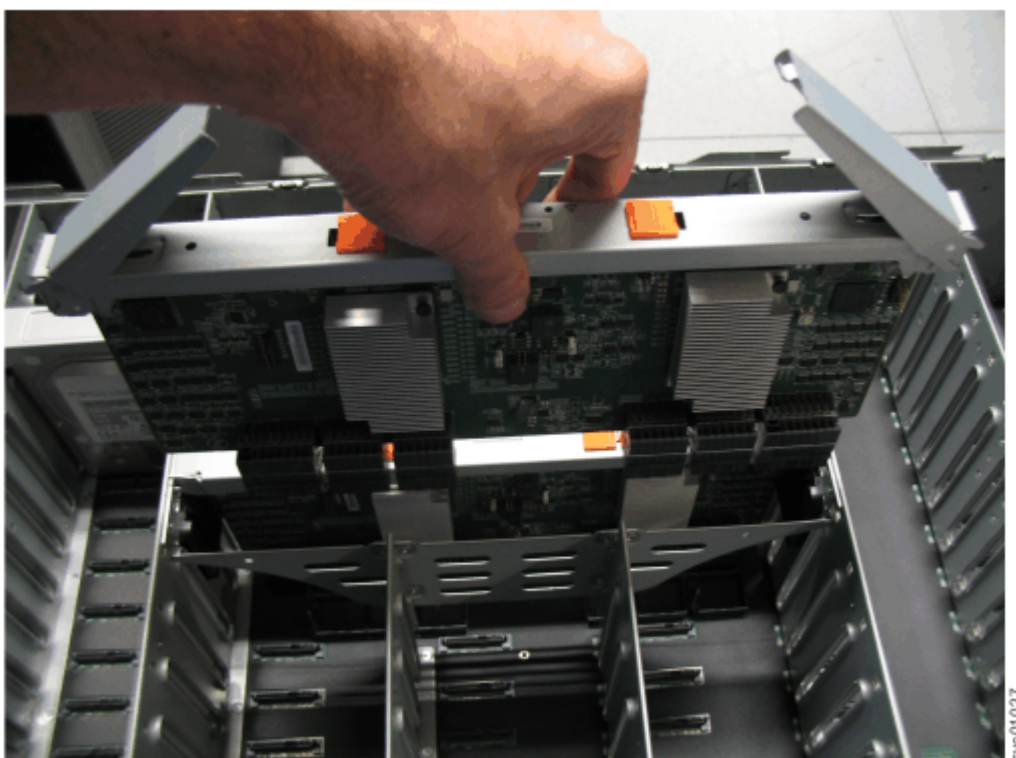

Figure 110. Remove the secondary expander module
4. Lift the secondary expander module carefully out of the enclosure, as shown in Figure 110 on page 168.